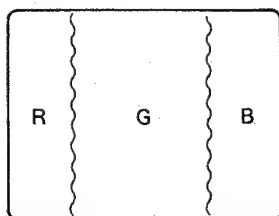

Fig. 1-3.
7. Set the screen to green only (R and B on the FRONT PANEL (L)) are in the IN position and G in the OUT position).
8. Turn purity knob as shown in Fig. 1-3 to bring the green on the center of the screen.